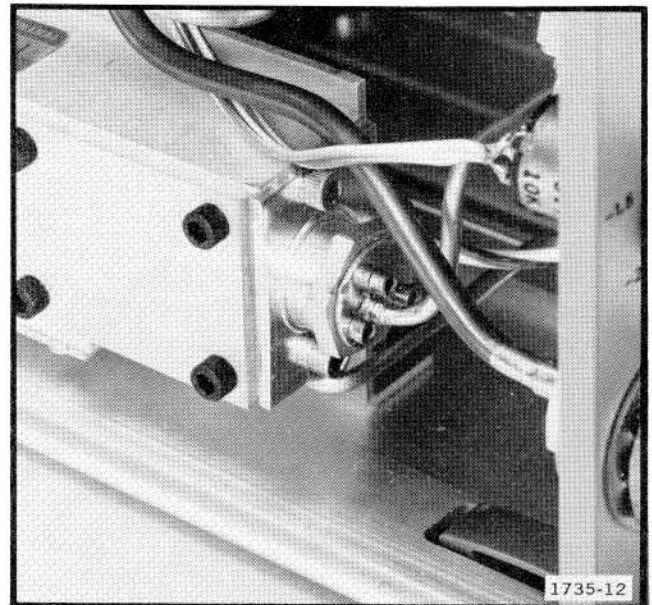

Fig. 6-7. Typical position for the mixer assembly in the 2.2 GHz filter assembly.
The filter assembly is pretuned at the factory so only slight adjustments are required after it is installed. The mixer affects filter response, therefore, if either assembly is replaced, retuning the filter and adjusting the mixer coupling will be required. The orientation of the mixer affects mixer balance and the suppression of a 2.2 GHz spur. If the mixer is positioned as shown in Fig. 6-7, the spur will usually be down 70 dB or more. If spurs should appear, adjust the orientation to minimize.
- c. Remove the mixer assembly and install it in the replacement filter assembly. Position the mixer assembly as illustrated in Fig. 6-7.
i. Loosen the mixer clamp, so the coupling and orientation can be adjusted, then position the mixer as indicated in Fig. 6-7 (apex of the 3 screws up).